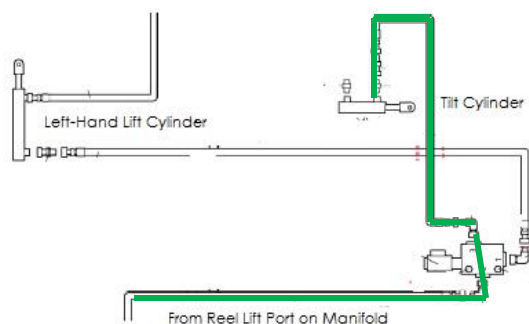
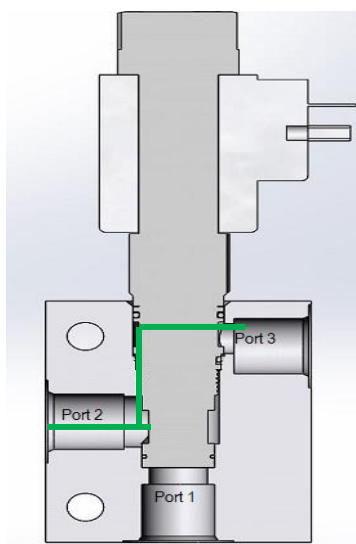

Figure 168
Figure 169
- When power is applied to the solinoid a spool shifts and send oil to port 3 to the tilt cylinder. Figure 168 and Figure 169